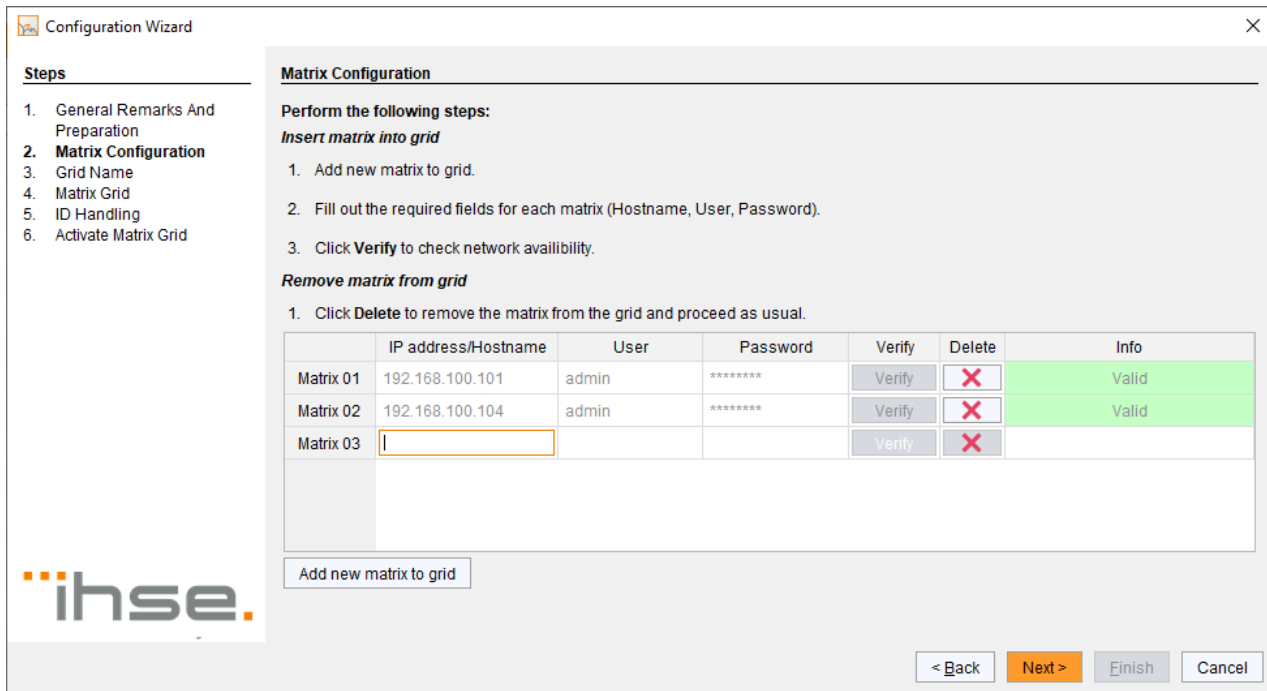

Fig. 143 Menu **Matrix Grid - Configuration Wizard - Matrix Configuration**
3. In step 2 **Matrix Configuration** (see Fig. 143 on page 159) you can add new matrices, delete a matrix or change the order.